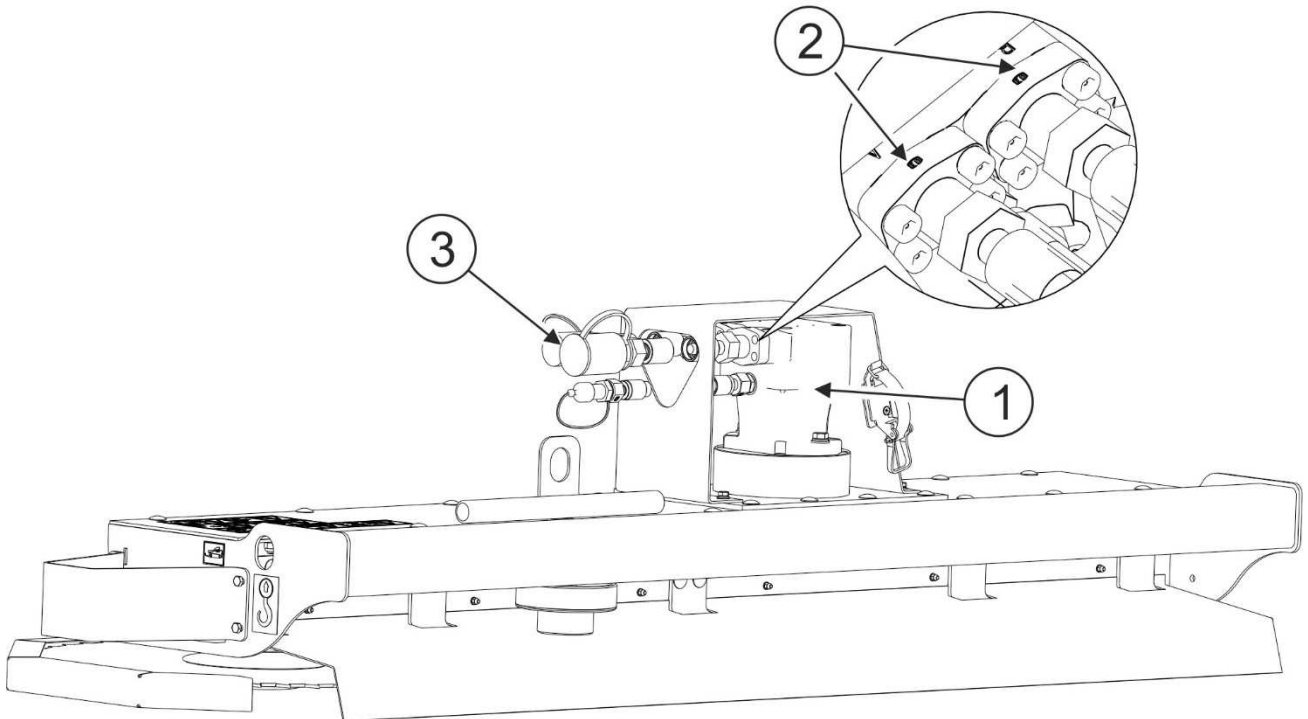

FIGURE 5.6 Inspecting connections of quick couplers of the hydraulic motor's hydraulic conduits.
The hydraulic system should be completely tight. If oil leak is detected on hydraulic motor body (1) (FIGURE 5.6), ascertain origin of leak. In the event of noticing leaks stop using the machine until faults are remedied.